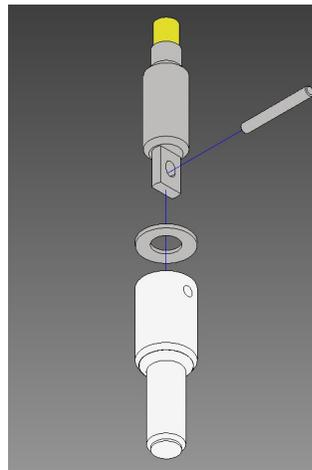

FIGURE F. 14. - STEM ASSEMBLY
4. Attach the wetted stem and spring washer to the threaded stem with the retaining pin and (see Figure F.14.). Note the washer orientation when installing.